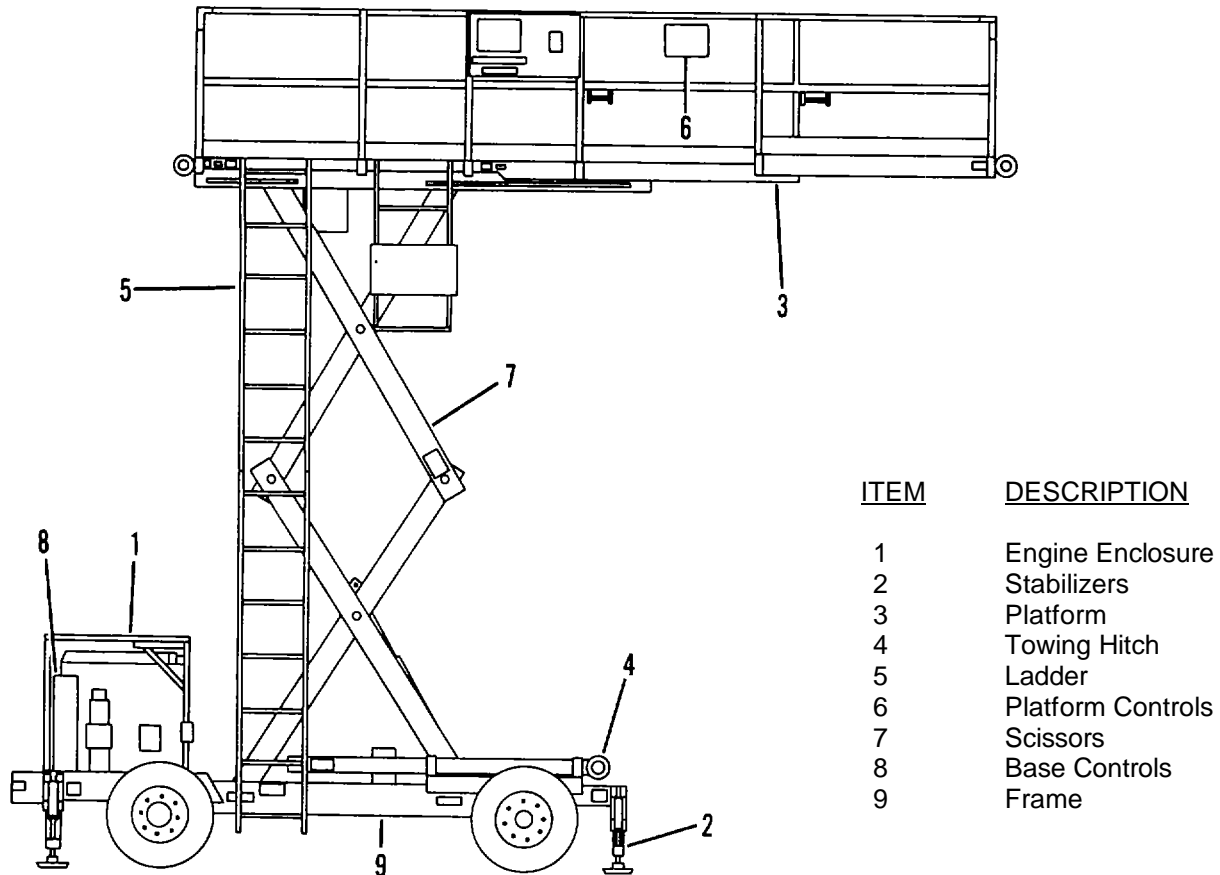

Figure 1-1. Major Components.
a. Engine Enclosure (1, Figure 1-1). Provides access to engine, hydraulic pump, hydrostatic transmission, hydraulic oil cooler, hydraulic reservoir, remote control unit, and hydraulic control valves.
b. Stabilizers (2). Stabilizes SPEMS on level ground before platform can be raised. Stabilizers provide supplemental support only and are not intended to level the base.